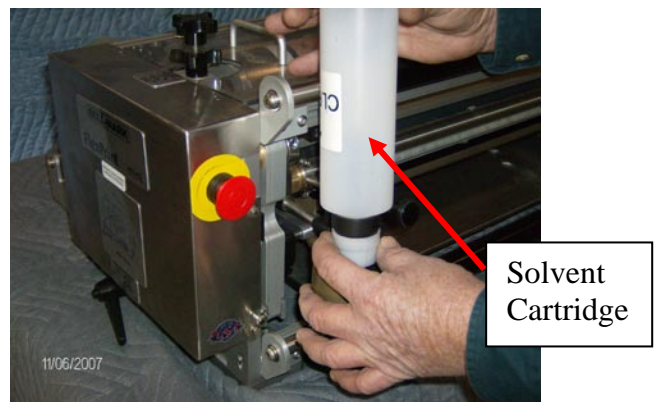

Figure 20-Inkwell Cleaning
5. Insert a solvent bottle (containing the proper solvent for your ink) into the Inkwell bottle receptacle (See Figure 20).